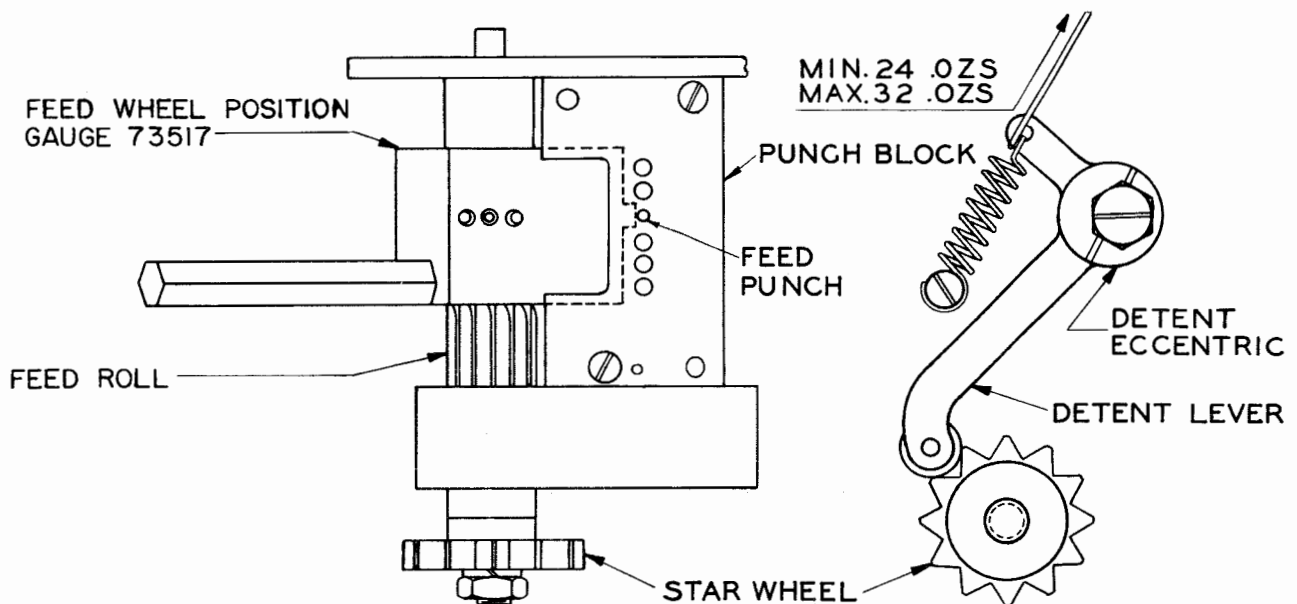
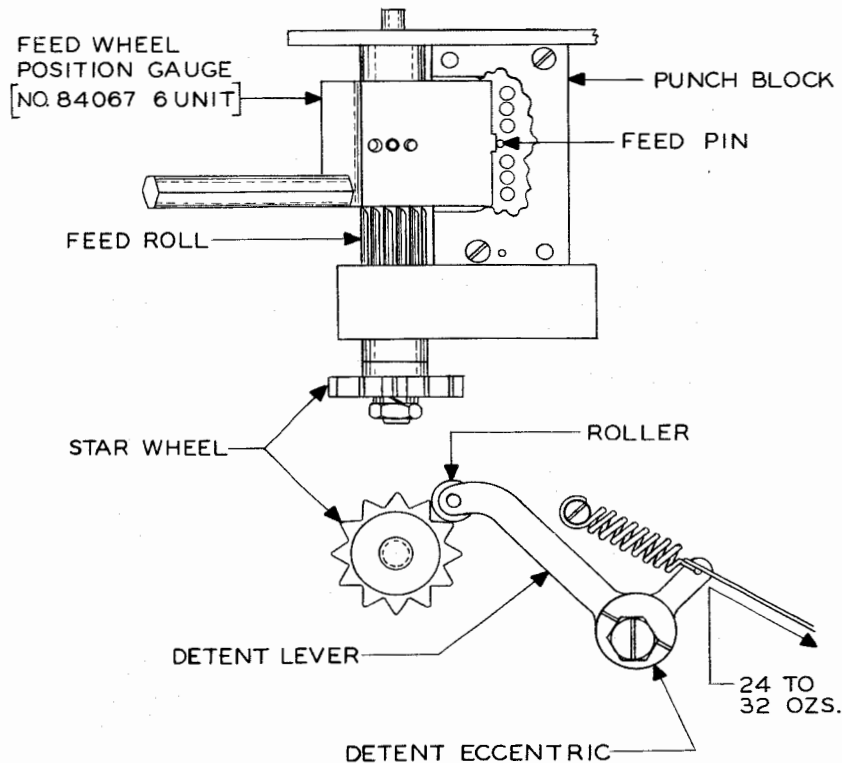

Figure 8A
Figure 8B
**To Check:** Hold the tape-tension lever away from the feed roll and insert feed-wheel position gauge (Use gauge TP73517 for the 14 nontyping reperforator, see Figure 8A. For the 20 nontyping reperforator use gauge TP84067, see Figure 8B.) in the punch block so that the projection of the gauge stops against the feed punch. With the gauge in this position a feed-roll pin should line up with the middle hole in the gauge. (See Figures 8A and 8B.)